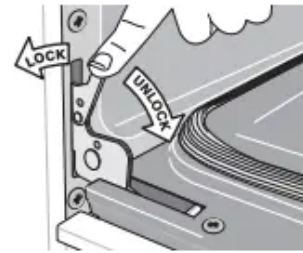

Figure 25: Door hinge locks
- 2. Pull the door hinge locks on both left and right door hinges down from the oven frame completely towards the oven door (See Figure 25). A tool such as a small flat-blade screwdriver may be required.
to the locked position (See Figure 25).